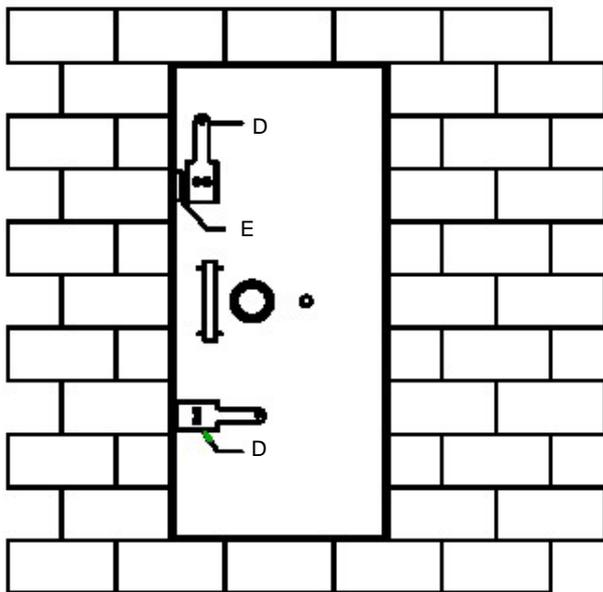

Figure 4
Figure 4 — inside view, The two cam lock levers (D) secure the door tight to the gas seal by means of tightening against the cam plate (E). In the open position the lever ends point up and down or away from each other. In the closed or locked position the lever ends are parallel pointing across the door to the hinged side. The drawing in figure 4 depicts the top lever in the open or unlocked position, and the bottom lever in the closed or locked position.